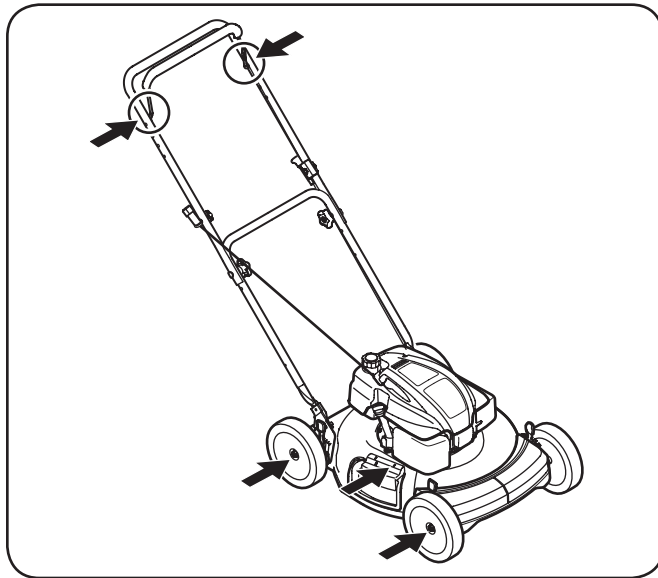

Figure 6-1
1. Lubricate pivot points on the blade control at least once a season with light oil. The blade control must operate freely in both directions. See Fig. 6-1.
2. Lubricate the wheels at least once a season with light oil (or motor oil). If wheels are removed for any reason, lubricate surface of the pivot arm and inner surface of the wheel with light oil. See Fig. 6-1.
3. Lubricate the torsion spring and pivot points on the side mulch plug periodically with light oil to prevent rust. See Fig. 6-1.